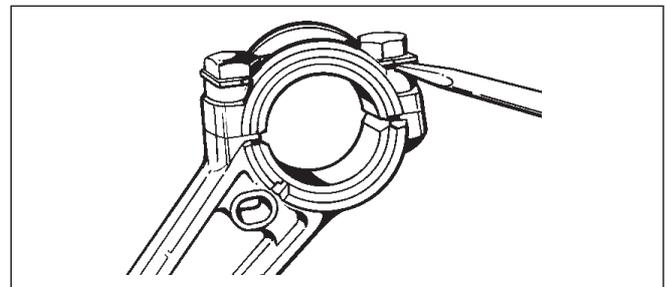

Fig. 18
- Bolt and Lock Tab - (Fig 18)